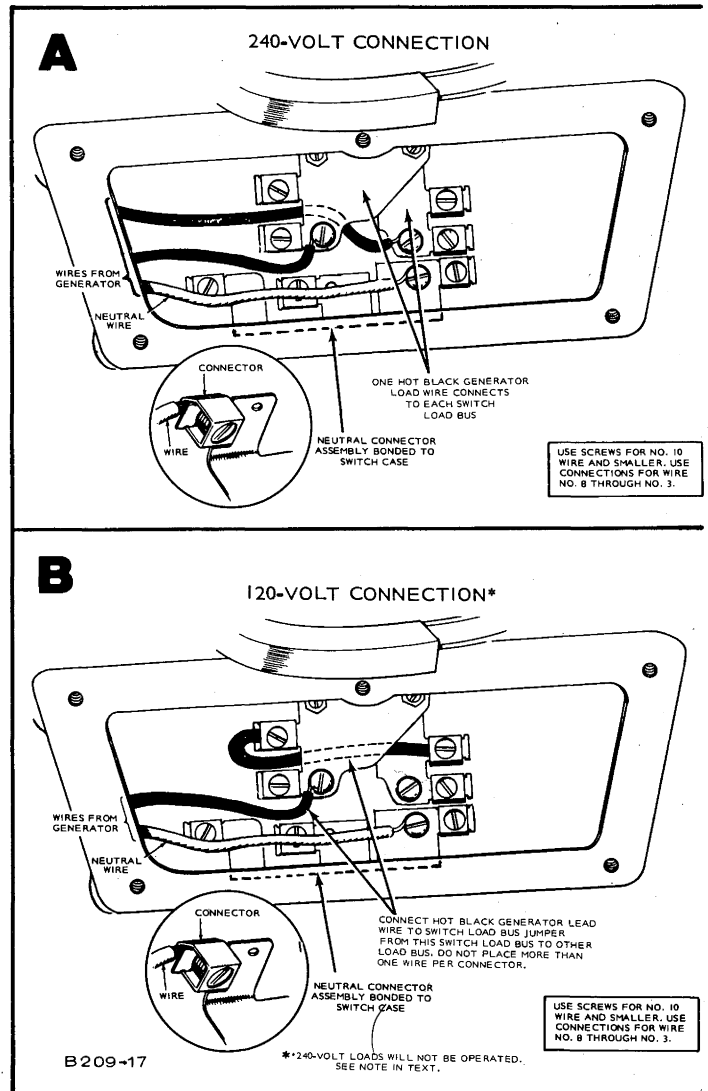

FIGURE 11
- Connect wires for the generator set to the transfer switch to the respective connectors in the transfer switch (Figure 11).